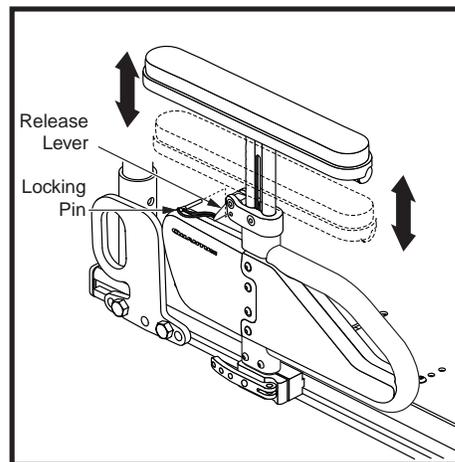

Figure 13. Single Post Quick Height Adjustable Armrest Top Height Adjustment
1. If present, remove the optional locking pin. See figure 13.